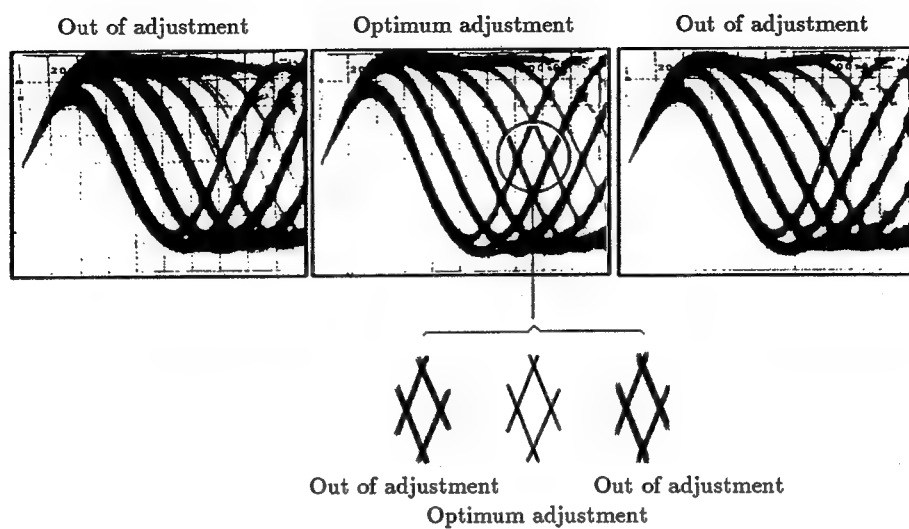

Figure 5 Eye pattern
3. Next, adjust the tangential tilt adjustment screw with an M 3-mm hexagonal wrench so that the eye pattern (the diamond shape at the center of the RF signal) can be seen the most clearly (Figure 5). For Multi-play CD type, use a Phillips screwdriver.